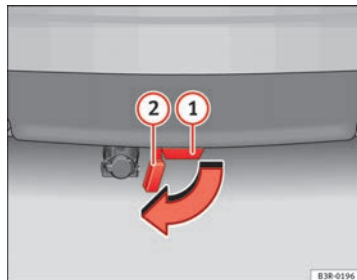

Fig. 166 Rear bumper:
- Remove the cover piece ② ⇒ Fig. 166 on the mounting fixture ① below the bumper as far as it will go. The cover piece is held automatically in the open position.